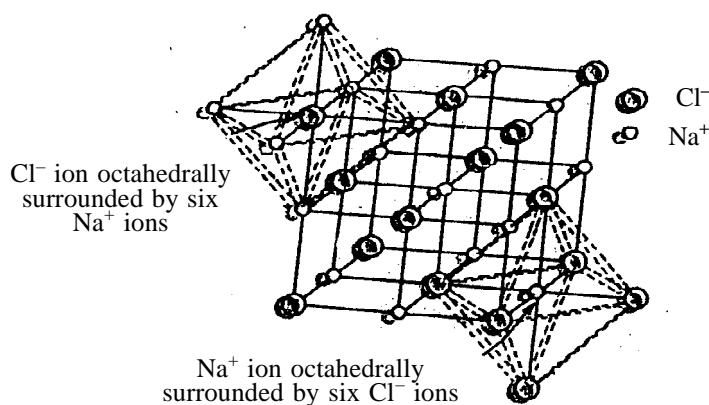

Fig. 1.15 Representation of unit cell of NaCl.
- Structure of sodium chloride :** A unit cell representation of sodium chloride is shown in fig. 1.15